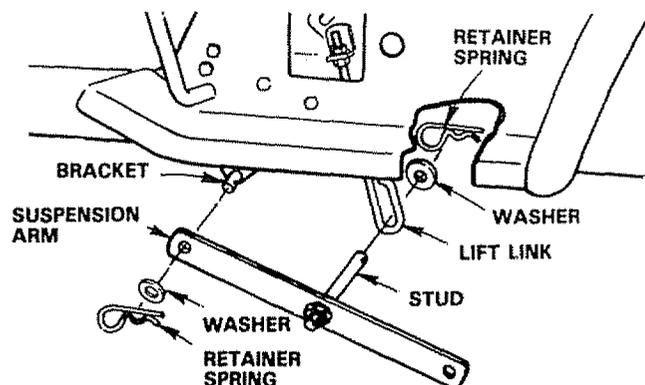

FIGURE 8
- Slide studs through lift links on both sides of tractor (Fig. 8). Retain with washers and retainer springs found in bag of parts.
- Place the suspension arms on brackets on both sides of frame (Fig. 8). Retain with washers and retainer springs found in bag of parts.
**BEFORE DRIVING THE TRACTOR, INSTALL MOWER OR REMOVE FRONT MOWER SUSPENSION BRACKET AND SUSPENSION ARMS.(FIG.8)**